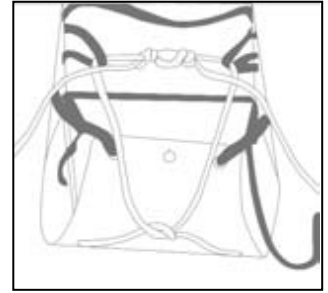

Fig. 12
- Bring ends of rope up over end of the stretcher. Pass thru carrying handles and secure with a square knot. Safety each side with an over hand knot (fig. 12).